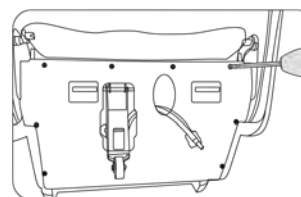

Figure 5
- Remove the 8 screws from the front dam-board, NOT the 4 screws on the bottom. (Figure 5)